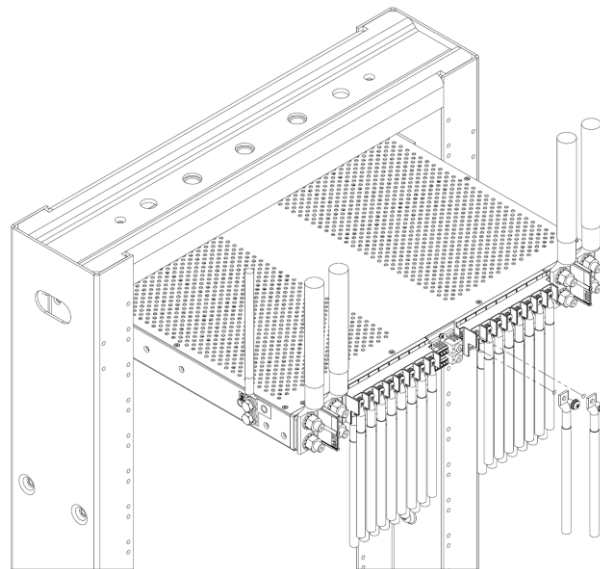
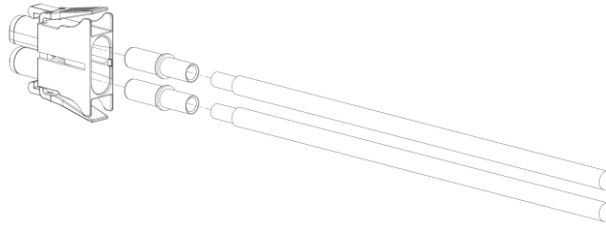

Fig. 2-15: Output Lugs
Fig. 2-16: Insert Crimped Terminals
51. Insert terminals into plug housing as shown in Fig. 2-15 and Fig. 2-16. The battery terminal goes in the “D” shaped position on the connector. The return terminal goes in the round housing position.